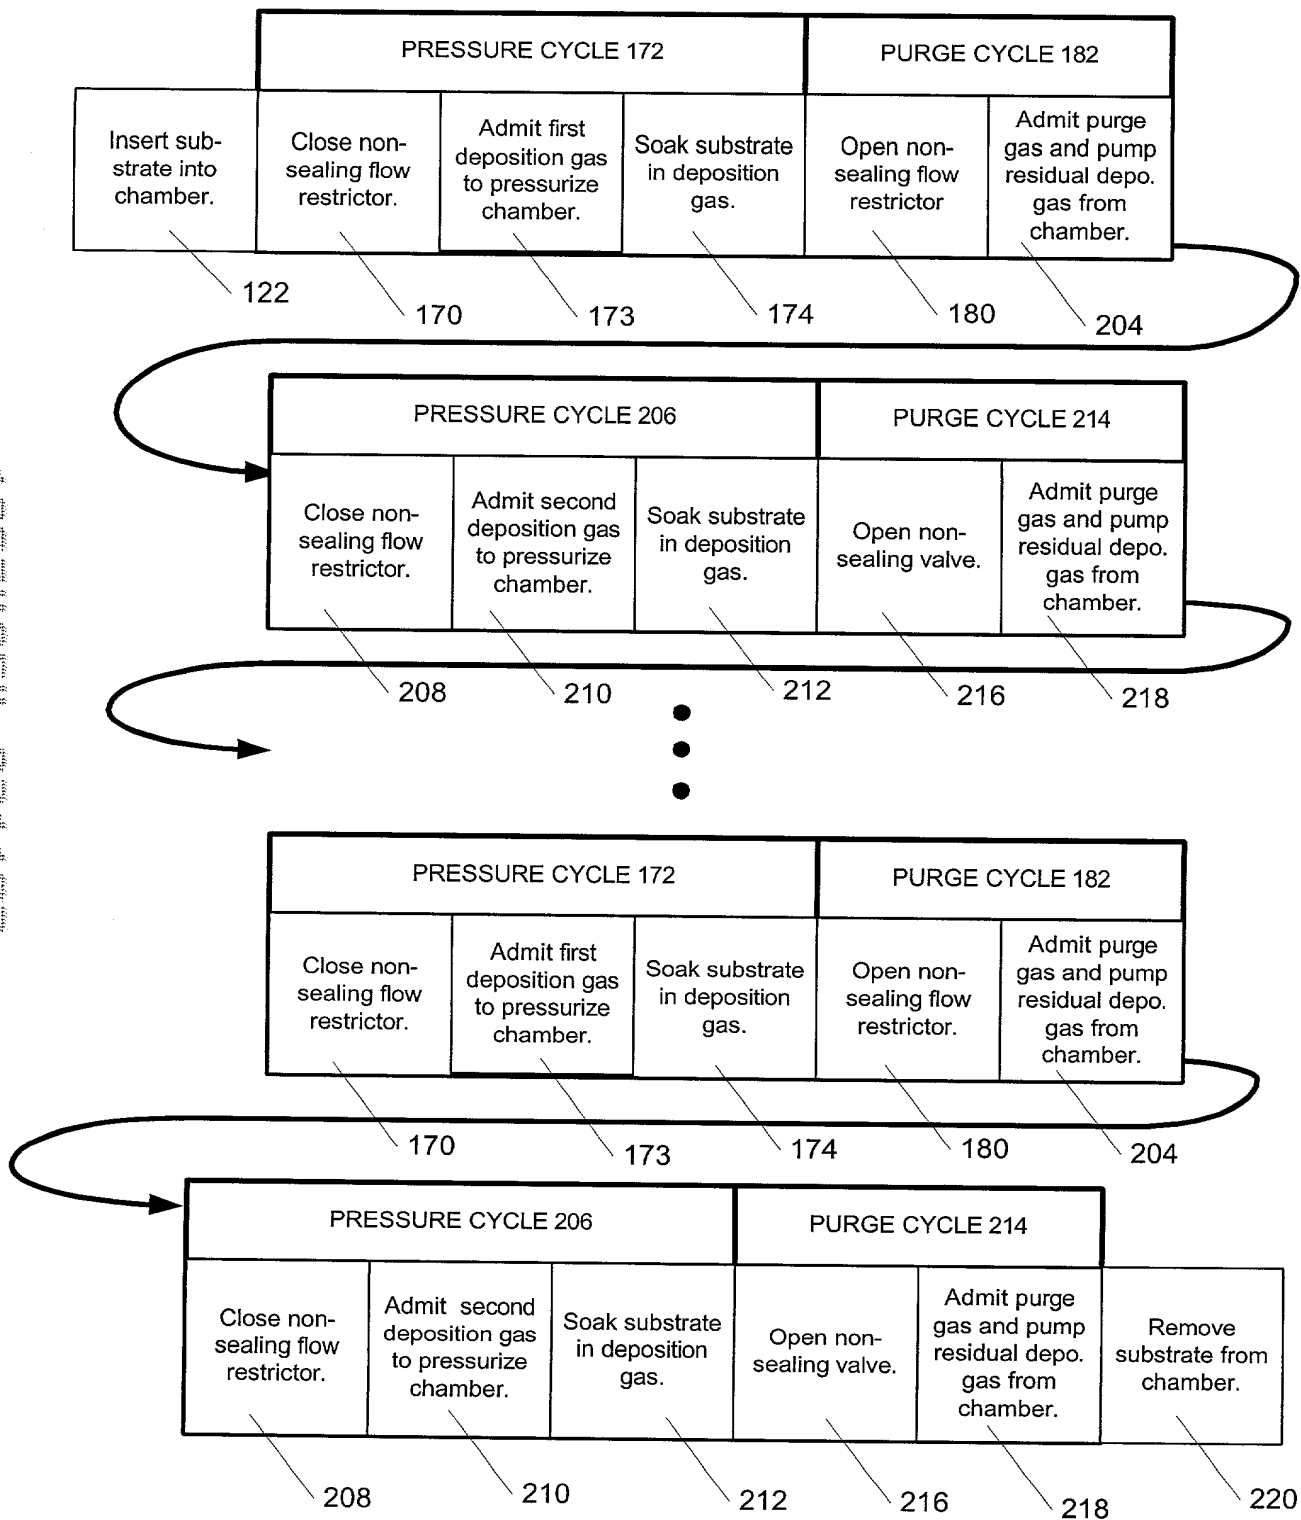

Fig. 2
FIG. 2 is a flowchart of a process for depositing a material on a substrate. The process begins with inserting the substrate into a chamber (122). The non-sealing flow restrictor is closed (170), and the first deposition gas is admitted to pressurize the chamber (173). The substrate is soaked in the deposition gas (174). The non-sealing flow restrictor is opened (180), and the purge gas and residual deposition gas are pumped out of the chamber (204). The process then enters a loop where the non-sealing flow restrictor is closed (208), the second deposition gas is admitted to pressurize the chamber (210), the substrate is soaked in the deposition gas (212), the non-sealing valve is opened (216), and the purge gas and residual deposition gas are pumped out of the chamber (218). This loop is repeated until the substrate is removed from the chamber (220).